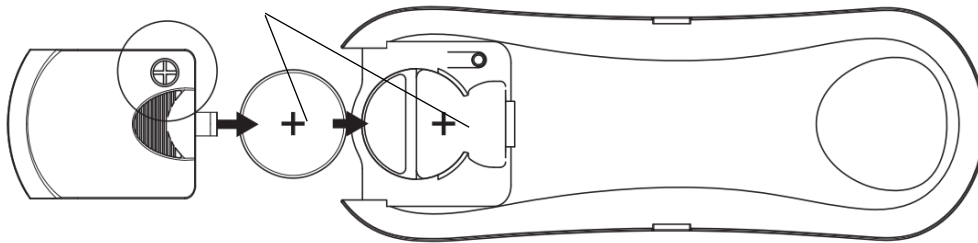

Fig. 11c
3. Install a new 3V CR2032 DC battery in the compartment. Please make sure the polarity of the battery is correct. (Fig. 11c)